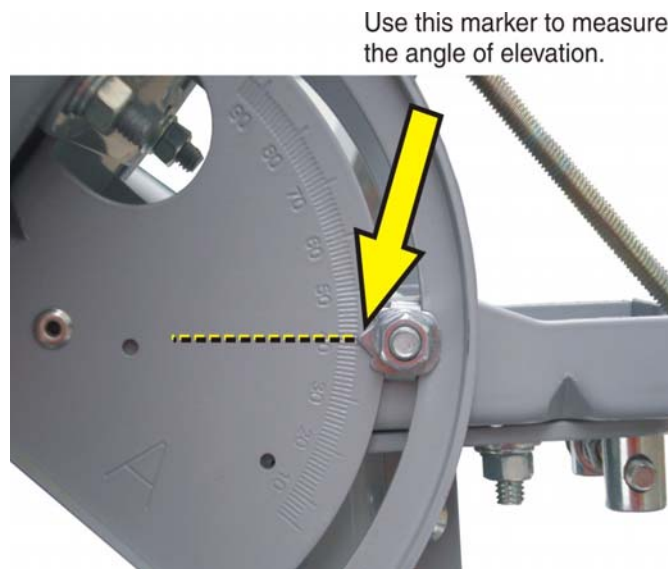

Figure 33: Elevation marker
3. Turn the handle to adjust the elevation. As shown in Figure 33, the pointer on the lockdown nut indicates the value in the elevation scale. For example, the antenna shown in the figure is adjusted to 42°.